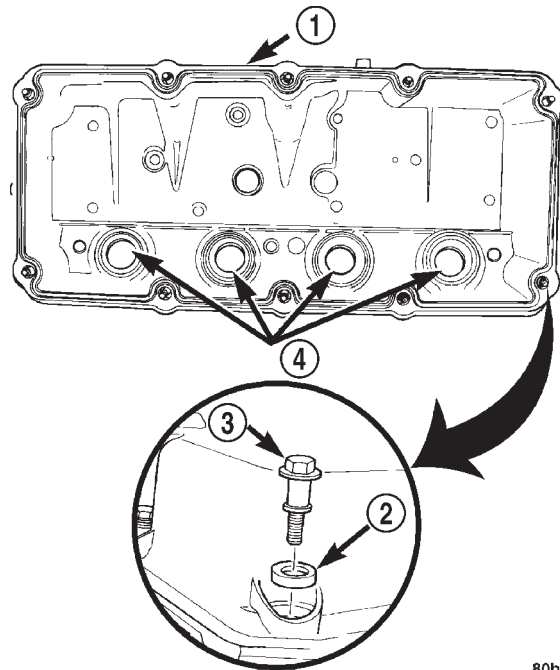

Fig. 42 Cylinder Head Cover Gasket and Seals
- (1) Clean gasket surfaces. Inspect gasket and seals (Fig. 42). Replace as necessary. For replacement of spark plug tube seals, refer to Spark Plug Tube Seals in this section for procedure.